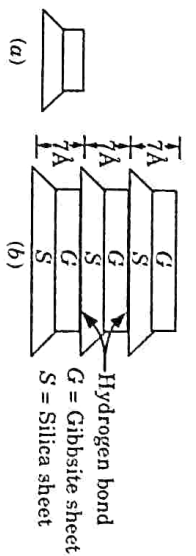

Fig. 1.21.1. Structure of kaolinite mineral.
- Its basic structural unit consists of gibbsite sheet (G) with aluminium atoms at the centre.
- It is joined to silica sheet (S) through the unbalanced oxygen atoms at the apexes of the silica sheet.
- The basic structural unit of kaolinite mineral is symbolized as shown in Fig. 1.21.1(a).